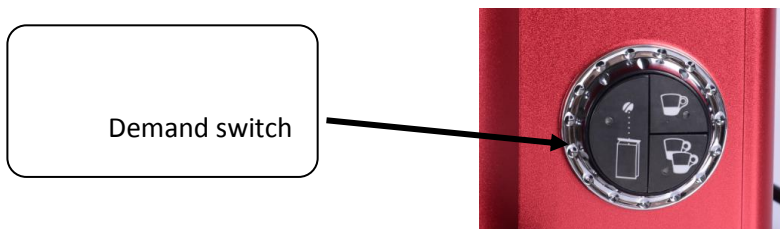

Fig 5.2
- **Single cup mode**, while in single cup mode any press on the demand switch (fig 5.2) will activate the grinder to grind a precisely timed dose (time can be programmed by user) into the filter handle.
- **Double cup mode**, while in double cup mode any press on the demand switch (fig 5.2) will activate the grinder to grind a precisely timed dose (time can be programmed by user) into the filter handle.